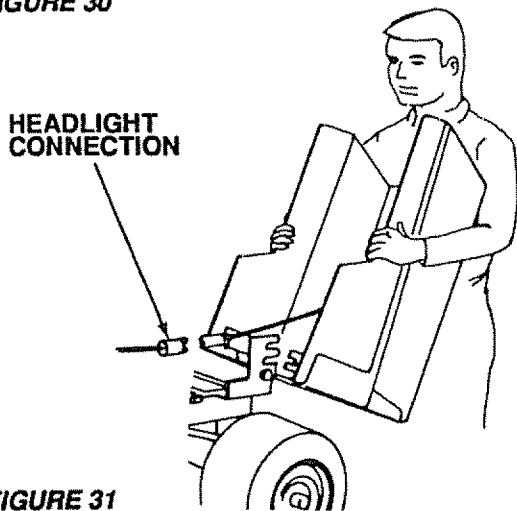

FIGURE 31
- Stand in front of tractor. Grasp hood and tilt forward and lift off (Fig. 31).